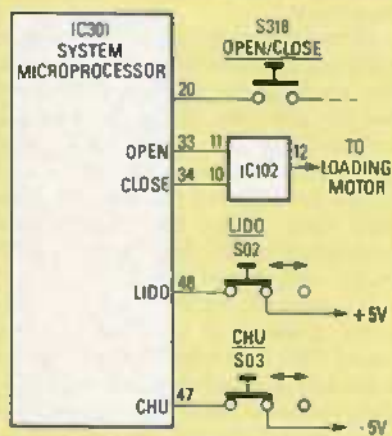

FIG. 26—IF THE TRAY does not open or close properly, use this diagram to help pinpoint the cause.
1. Tray does not open or close properly. Figure 26 is the troubleshooting diagram. If the tray will not open or close, first check that the system microprocessor, IC301, is getting signals from the front-panel OPEN/CLOSE switch, S318. If not, suspect S318 and/or the wiring between S318 and IC301. Next, check that the loading motor receives a signal from pin 12 of IC102 when S318 is pressed. If so, suspect the motor; if not, you have a problem between IC301 and the motor (through IC102).